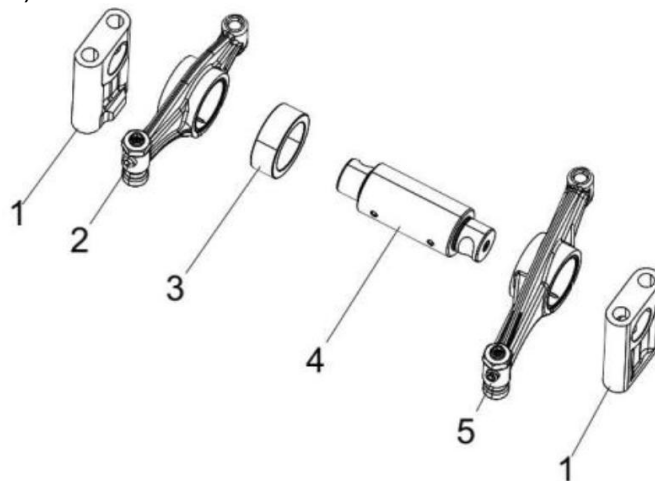

Figure 49. Rocker Arm Assembly
5. Remove the rocker arm support (Figure 49, 1).
6. Slide the exhaust rocker arm assembly (Figure 49, 2) out of the rocker arm shaft assembly (Figure 49, 4), rocker arm shaft sleeve (Figure 49, 3), and intake rocker arms assembly (Figure 49, 5).